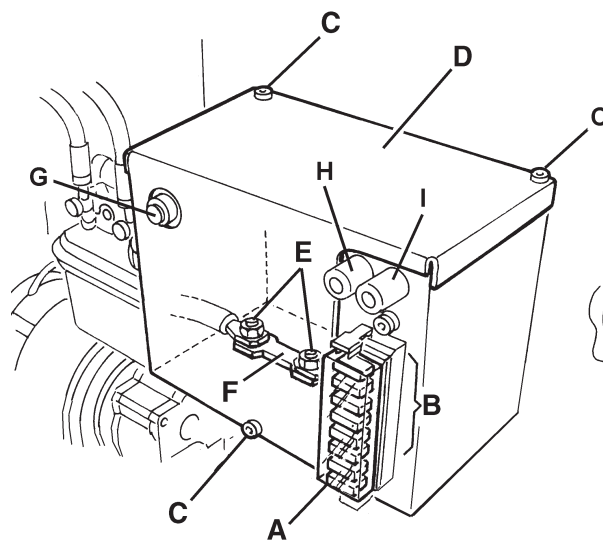

Figure 28
5. Remove the cover (A, Fig. 28) and mark the positions of the fuses shown on the adhesive.
6. Check/replace the relevant fuse among the following (B):
7. Remove the screws (C, Fig. 28), then remove the cover (D).
8. Remove the nuts (E).
9. Check/replace the main fuse F0 (150 A) (F)
- FA fuse (H, Fig. 28): Right side broom motor circuit breaker
- FB fuse (I): Left side broom motor circuit breaker (optional)
- FC fuse (G): Main broom motor circuit breaker